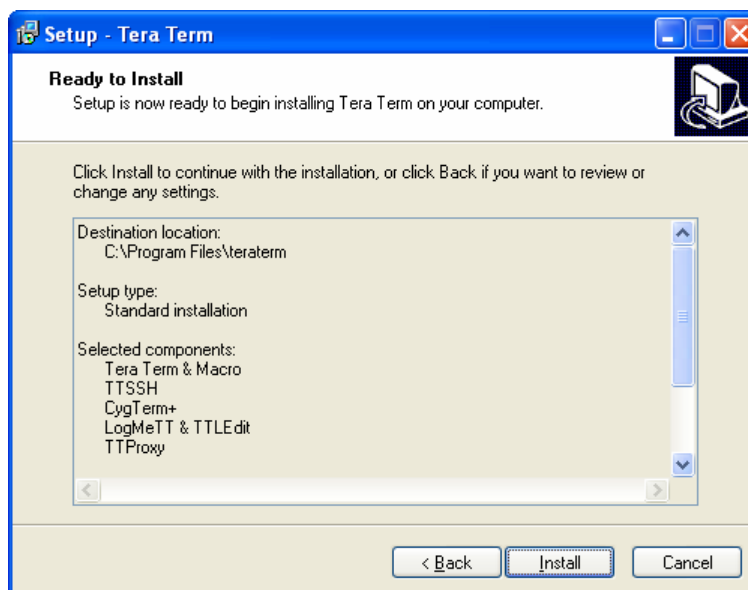

Figure 6-20: Ready to Install Screen
14. At the Ready to Install screen, then click **Install** (Figure 6-20).